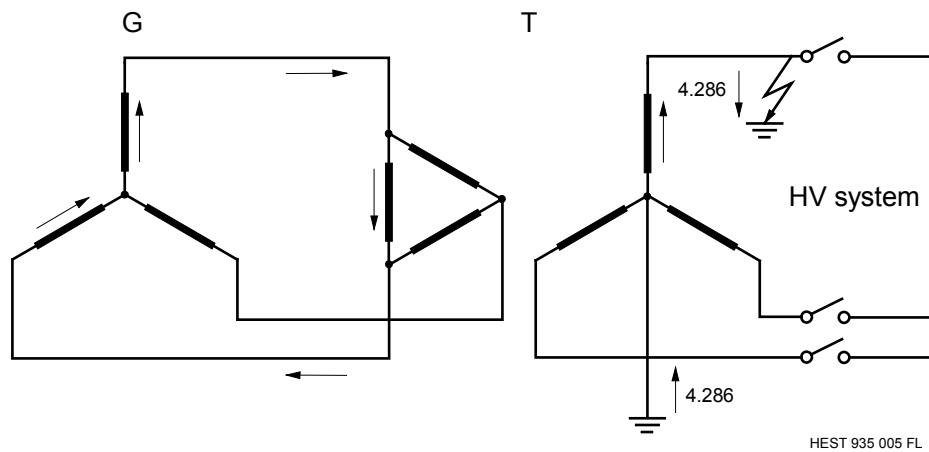

Fig. 4.1 E/F on the HV system supplied by the generator
- a) the generator and step-up transformer reactances when the HV circuit-breaker is open (see Fig. 4.1)